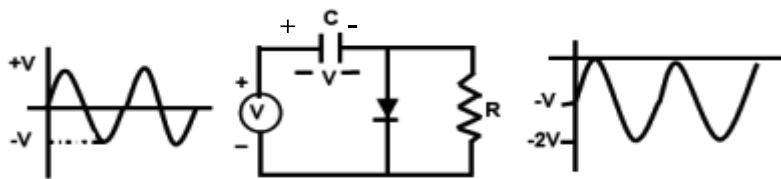

Figure 1: Negative Clamper
The negative clamper is made up of a voltage source V , capacitor C , diode D , and load resistor R as shown in figure 1. In this the diode is connected in parallel with the output load
1. Connect the circuit as shown in Figure 1.